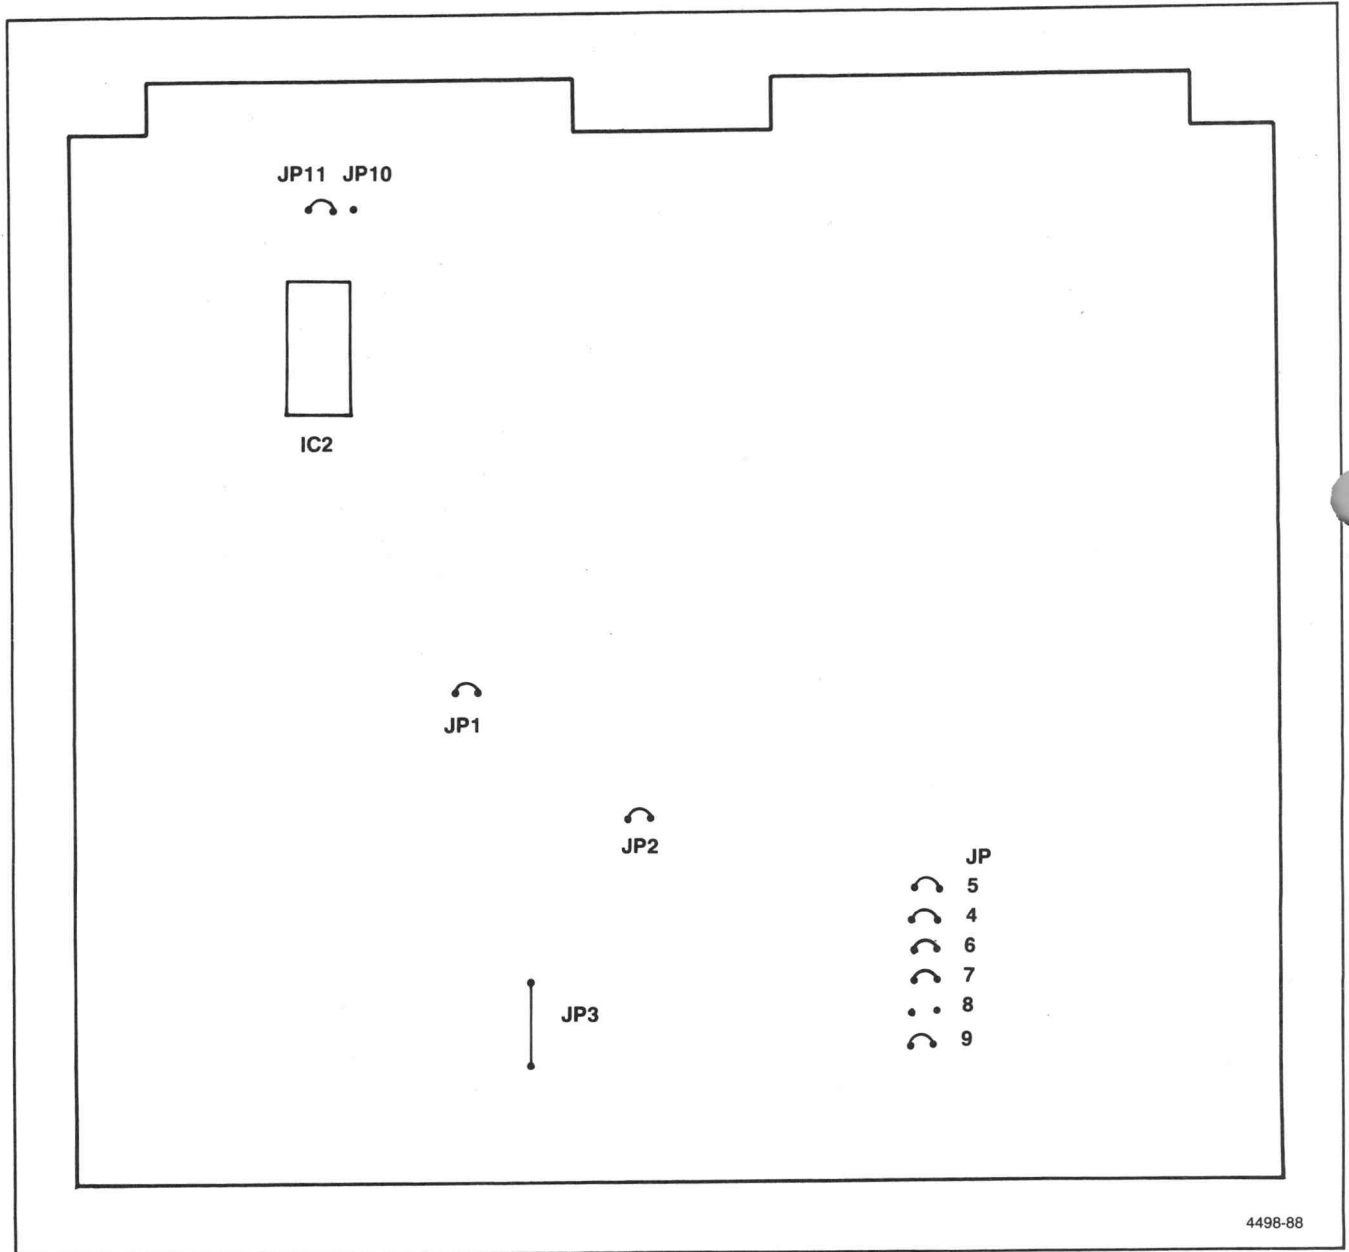

Figure D-3. CPU Straps and Switches Locations.
C. CPU Circuit Board (see Figure D-3):